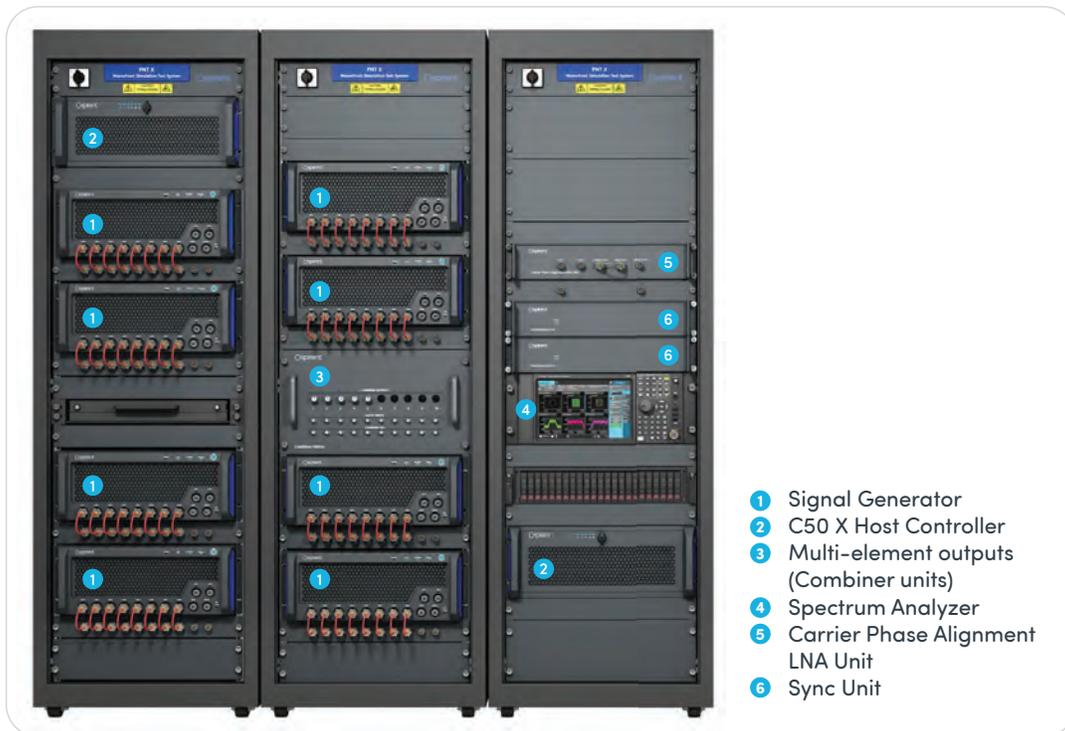

Figure 2: Example of a multi-element, multi-GNSS + jam + spoof simulation system
- Figure 2: Example of a multi-element, multi-GNSS + jam + spoof simulation system 5